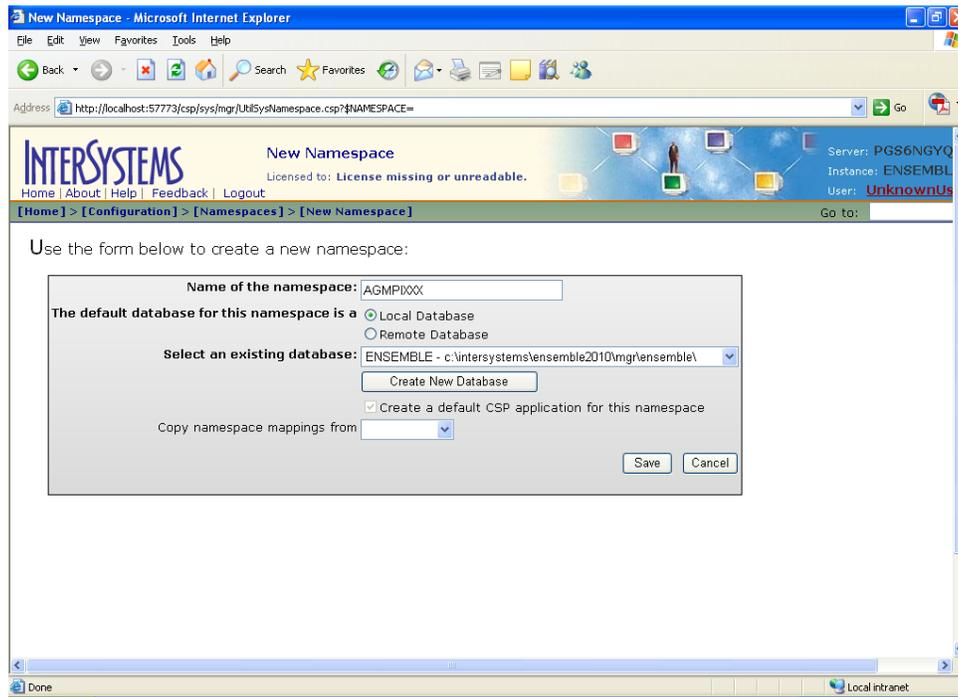

Figure 4-5: **New Namespace** page
5. Click **Create New Namespace** to open the **New Namespace** page, as shown in Figure 4-5.